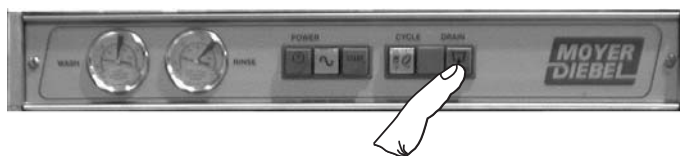

Figure 3- Drain Switch Position
2. Remove the overflow tube and press and hold the **DRAIN** switch to drain the machine. (See Fig. 3)
2. Press and hold the **DRAIN** switch (see Fig. 3) to activate the drain pump and drain all the water from the machine.